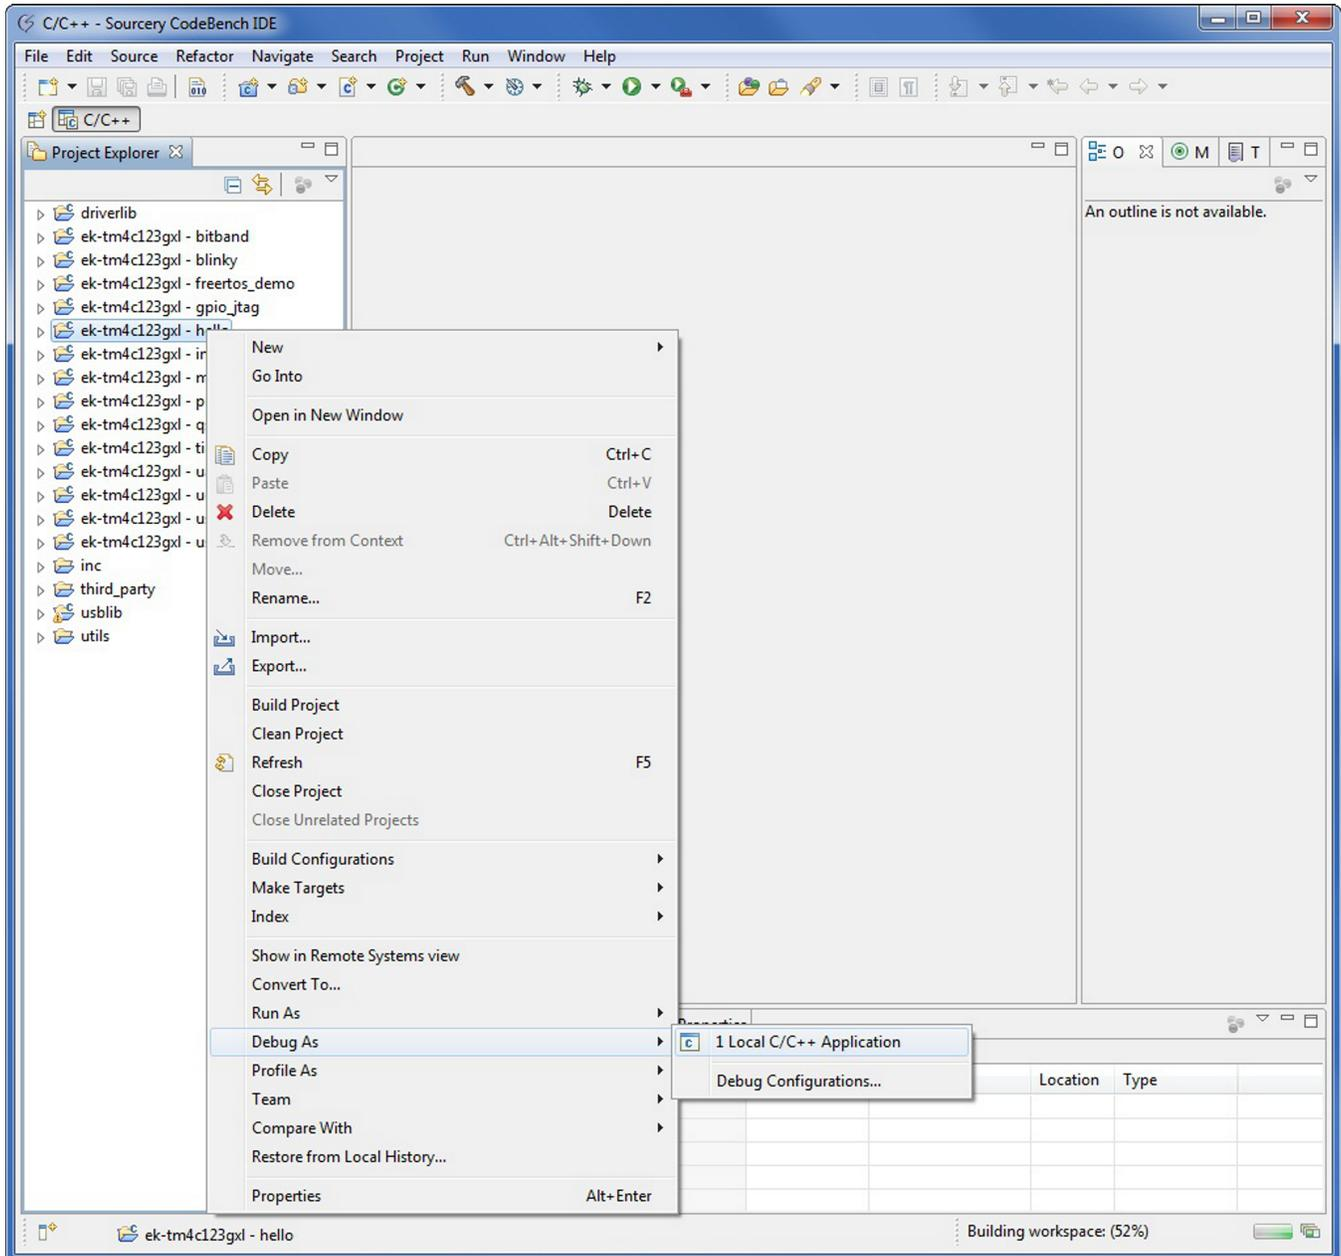

Figure 5.
1. Point to the example application you wish to download and right-click to show a context menu (see Figure 5). From this menu select Debug As... then select C/C++ Application from the menu that appears. The application is downloaded to the board and is ready for debugging.